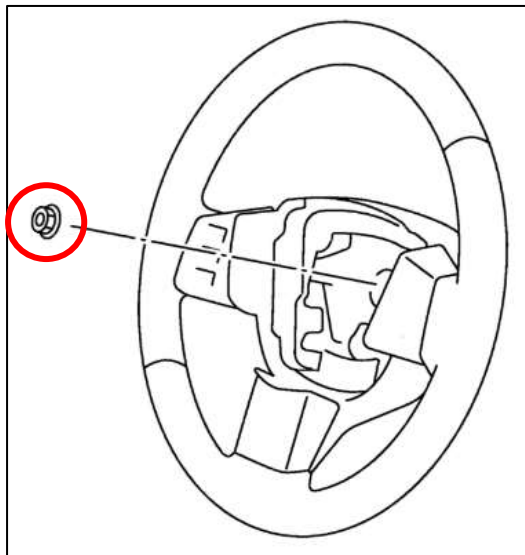

Figure 11
- e. Using an impact gun, remove the nut in the center of the Steering Wheel. *Figure 11.*